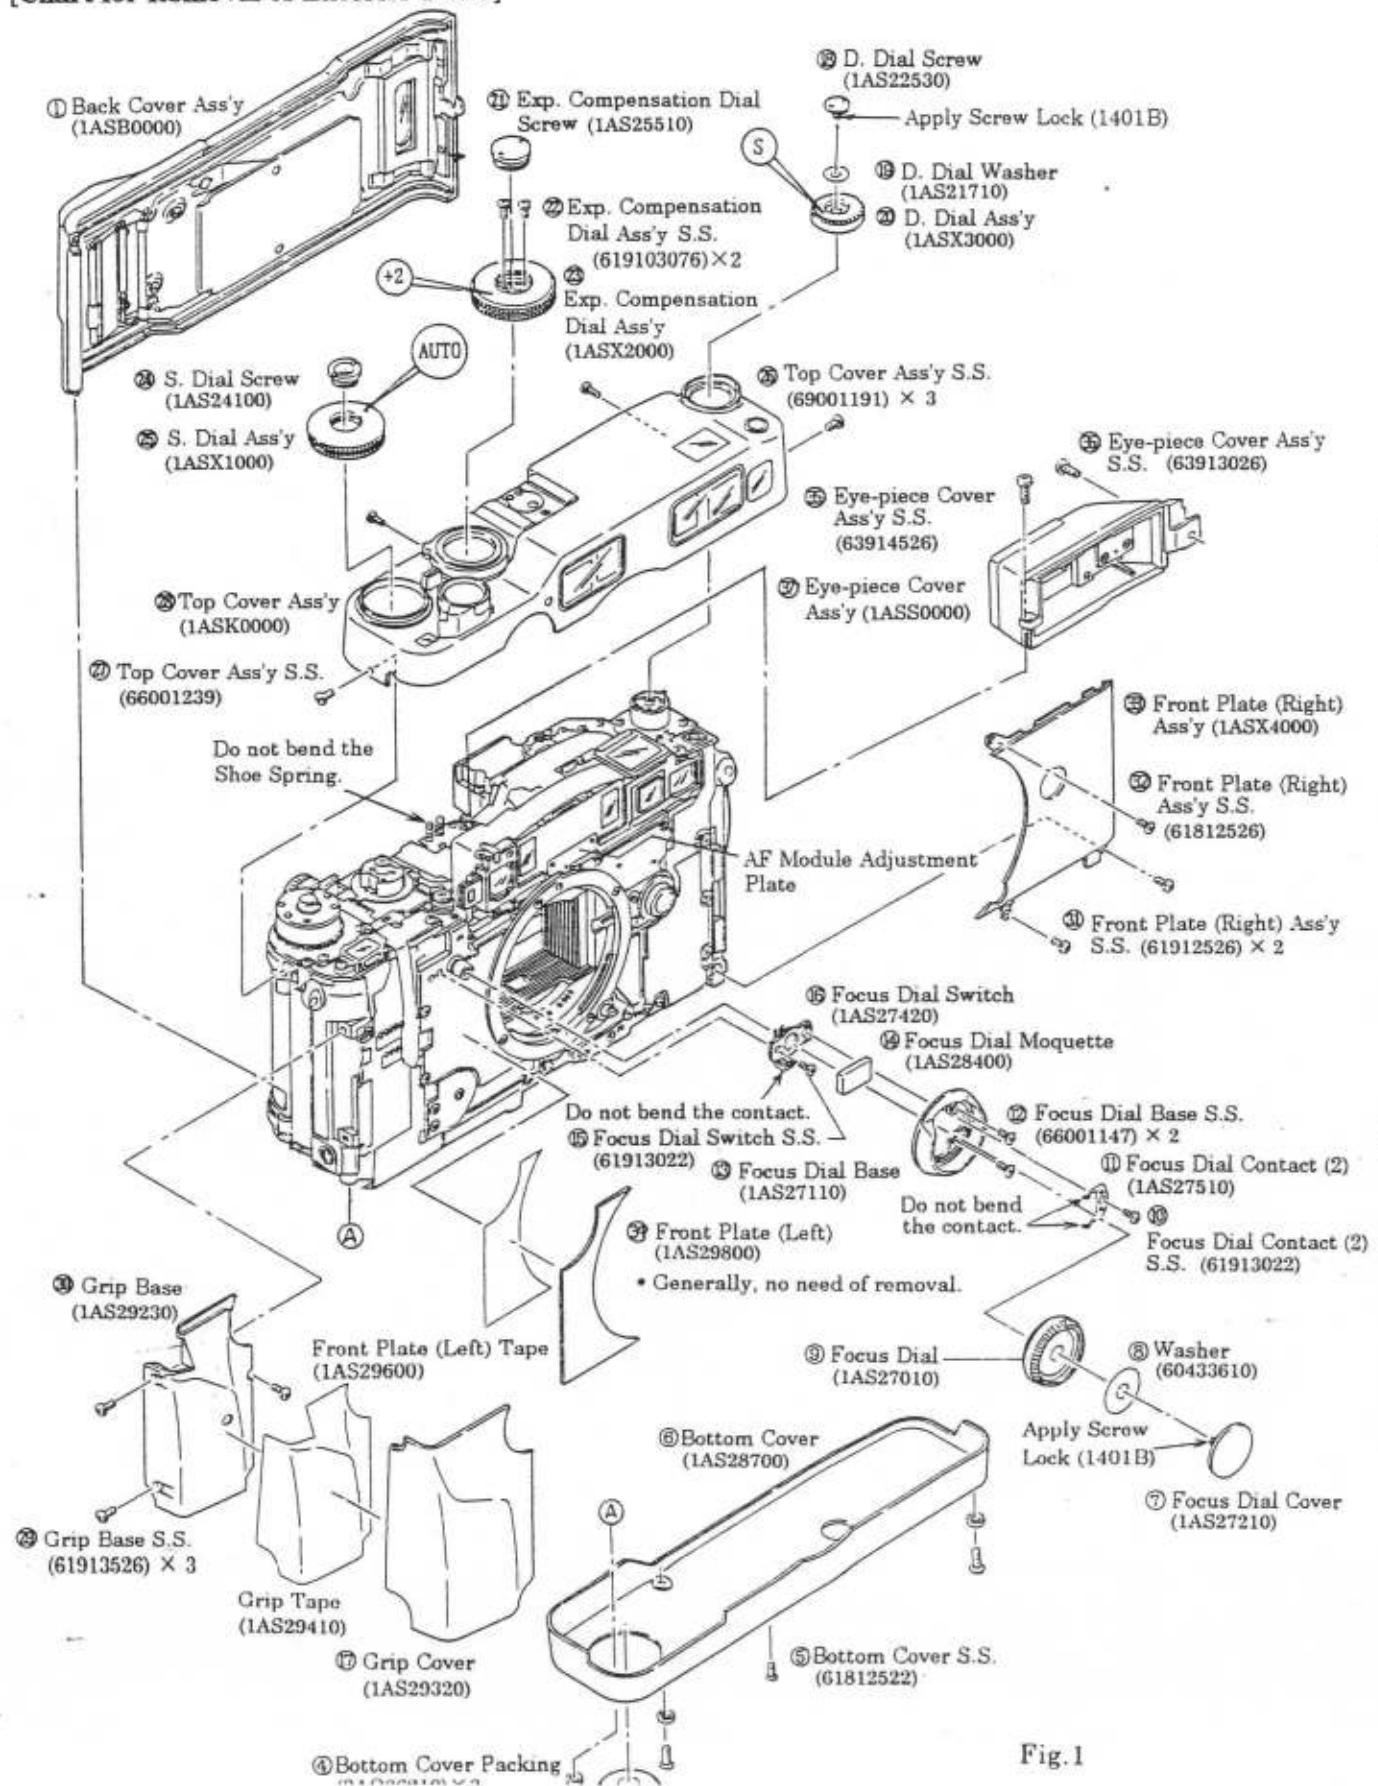

Fig.1
- 1) Remove exterior parts in the numerical order of ① to ⑯ shown in Fig. 1.
- 3) Remove exterior parts in the numerical order of ⑰ to ⑲ shown in Fig. 1.